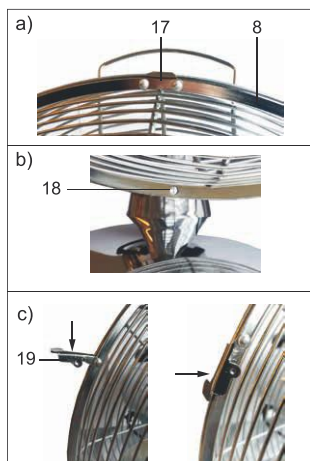

Fig. 14: Mounting front protective grille
18. Slide the front guard grille (8) with the hanger (17) over the upper edge of the rear guard grille. Fig. 14 a).
19. Check whether the two hole recesses (18) are flush with each other at the bottom of the protective grille frames. Fig. 14 b).
20. Slide the 4 locking clamps (19), each located on the side of the front protective grill, over the frames of both protective grills. Fig 14 c).
21. Push the Phillips-head screw with lens head (8a) through the hole recesses (18) of the protective grille. Fig. 14 b).